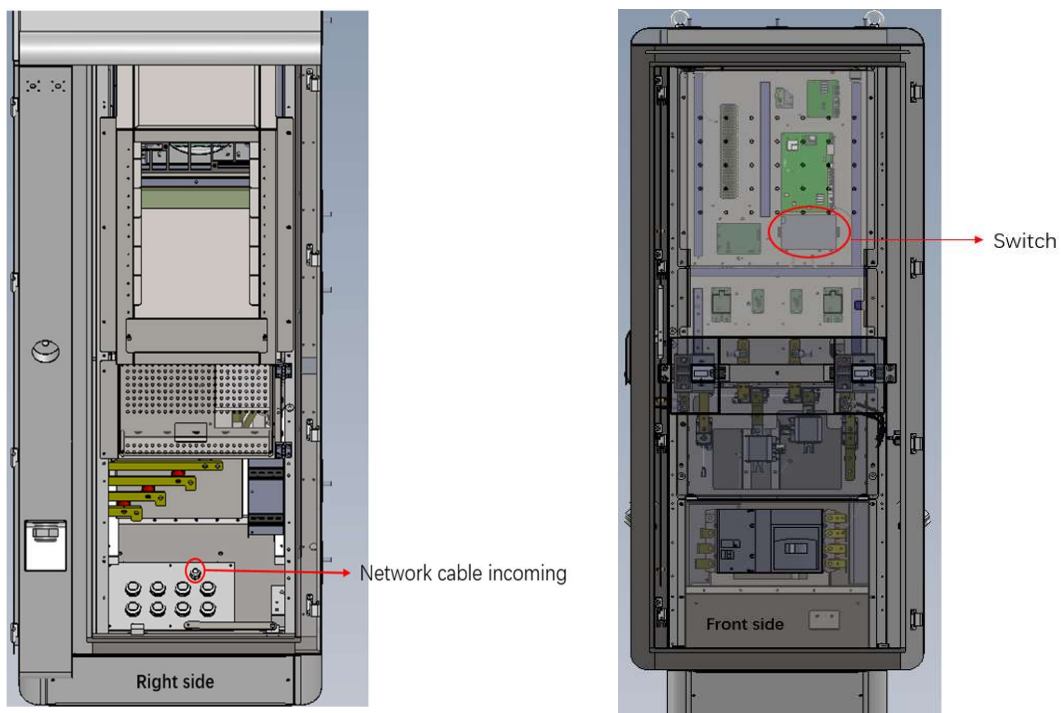

FIG.10 Network cable connection
Crane description: Select the appropriate lifting rope and machinery according to the weight. Each eyebolt on the top shall be provided with a rope, the lifting height of the rope shall not be less than 1m, the stress center of the hook shall be located at the symmetrical stress center, and the lifting schematic diagram is shown in Fig. 10. Hoist the charger according to the hoisting operation specification, align the four holes of the base with the anchor bolts, and place the charger on the concrete foundation.
- (3). If the Ethernet communication is required, open the right door of the charger, make the network cable go through the bottom of the cabinet, and take it from the right side to the front side, reserve the corresponding length, strip the cable, crimp the RJ45 connector, and connect it to the switch, as shown in Figure 10.